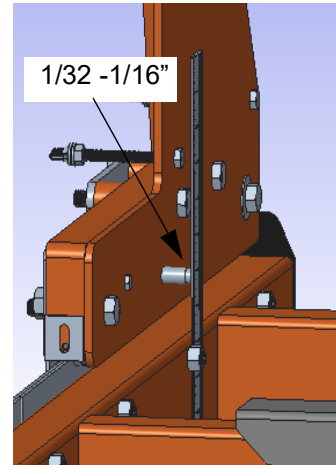

FIG. 19
5. Use a straight edge to align the switch within 1/32" to 1/16" parallel to the edge of the frame. See FIG. 19.